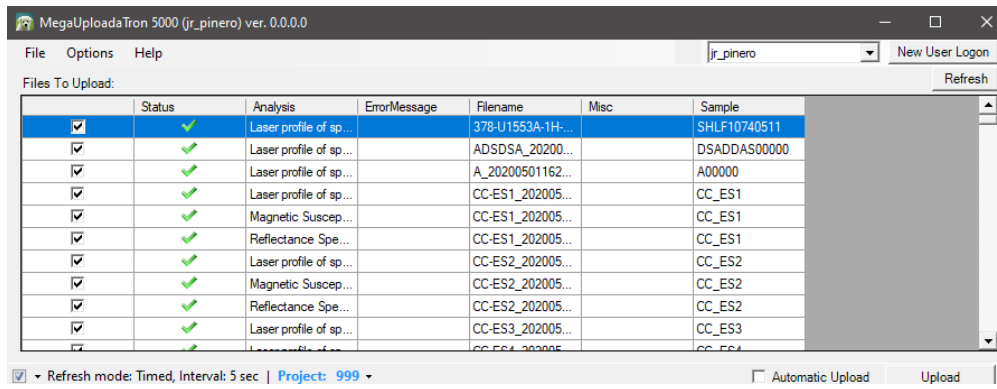

Figure 8. Main MUT screen
2. Once activated, the list of files from the **C:\DATA\IN** directory is displayed. Files are marked ready for upload by a green check mark (Figure 8).